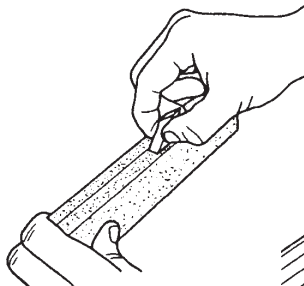
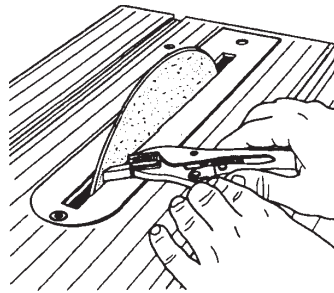
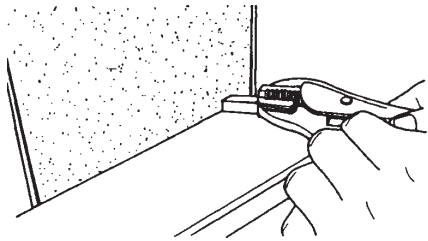

Fig. C-4
Fig. C-5
Fig. C-6
- Remove a guide block. To resurface it, you can use a whetstone (see Fig. C-4), a sanding disc (see Fig C-5), a belt sander (see Fig. C-6), or strip sander. The key to successfully resurfacing the guide block is to keep the work surface consistently flat against the abrasive surface. You may want to make a special jig to hold your guide blocks while you sharpen them.